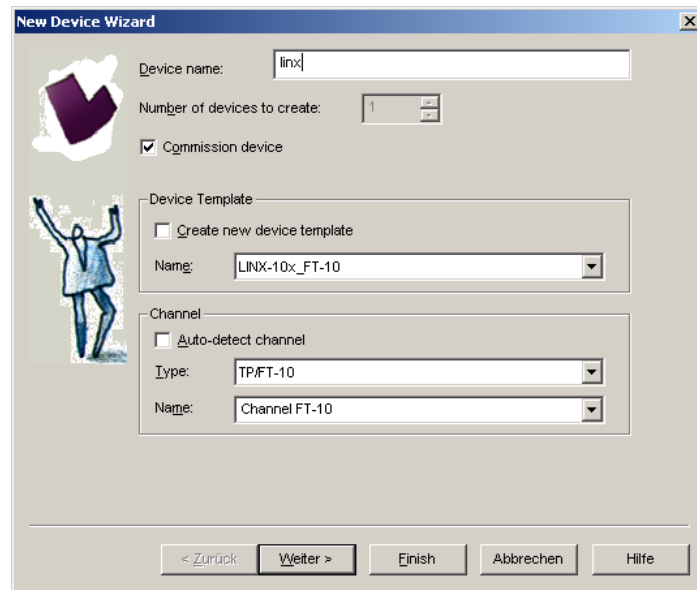

Figure 109: Create a new device in the drawing.
1. In your LonMaker drawing, drag a device stencil into the drawing. Enter an appropriate name as shown in Figure 109.